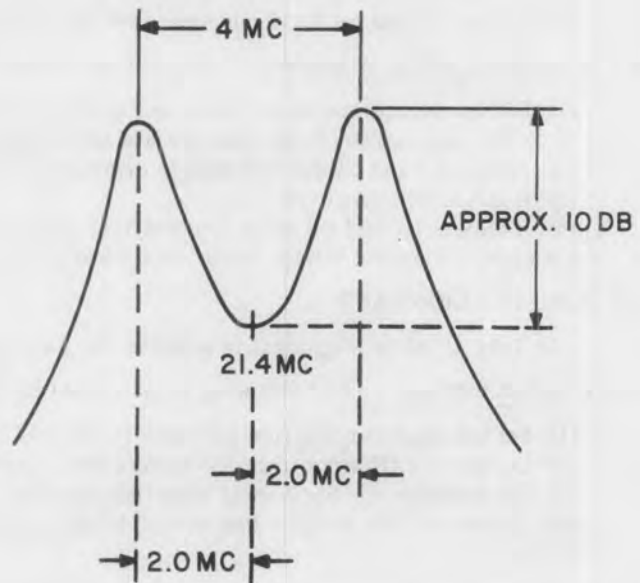

Figure 4-7. Typical Response Curve, 3-mc Bandwidth Alignment
- (2) Adjust L12 and L13 for an extremely over-coupled response centered at 21.4 mc. A typical response is shown in Figure 4-7.
- (3) Replace bottom cover.